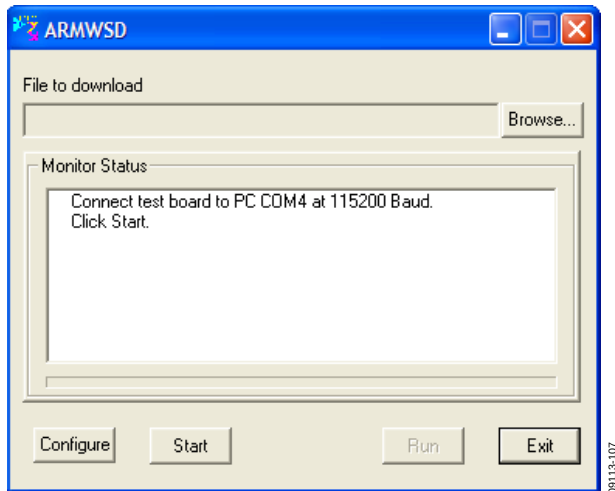
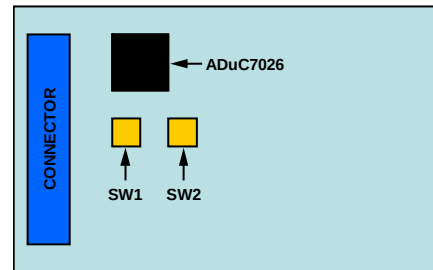

Figure 8. ISEB ARMWSD Firmware Downloader
Figure 10. ISEB Switch Locations for Flashing the Microcontroller
2. Run the **ARMWSD.exe** program located in the **/ISEB_USB/FW/** folder; it displays information about the downloader, as shown in Figure 8.
When the COM port is selected, click **OK** to accept the changes and go back to the ARMWSD box (shown in Figure 8).
- Click **Start** in the ARMWSD box (see Figure 8) to initiate the flashing process. After clicking **Start**, click the two buttons (shown in Figure 10) on the ISEB in the following order to flash the firmware:
- If the downloading process fails, which is indicated in the **Monitor Status** box (see Figure 8), attempt the download again by clicking **Start** and then pressing the appropriate switch combination. It may take a few attempts to reprogram the board successfully.
- After the download has completed successfully, click **Run** (as shown in Figure 8) to reset the ISEB and to begin running the new firmware.